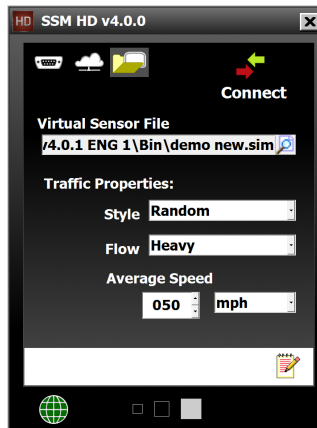

Figure 4.4 - Virtual Connection
- 1 Click the **Virtual** button  (see Figure 4.4).